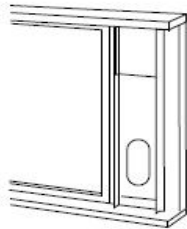

Fig. 16
4. Close the door/ window on the window slide bars. For long term installation, you may screw the window kit into your window frame. See Fig. 16.